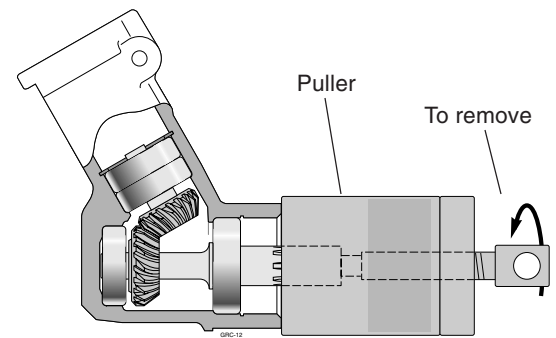

Figure 11.5 Removing the output shaft.
**STEP 1.** Thread the appropriate puller bolt completely into the puller body (Figure 11.5).